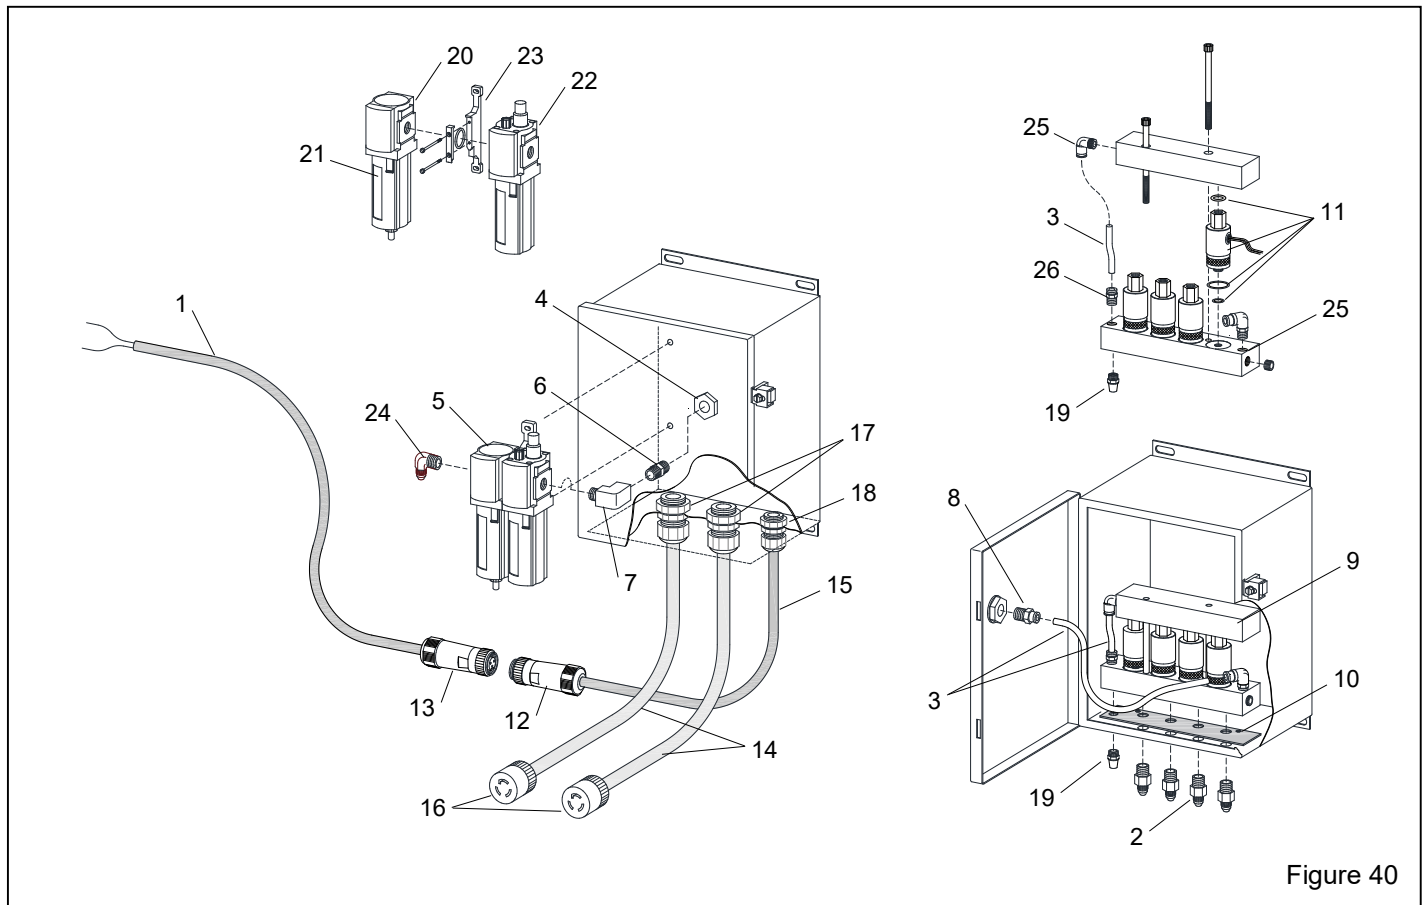

Figure 40
9.5 Electric Control Panel – Figure 40